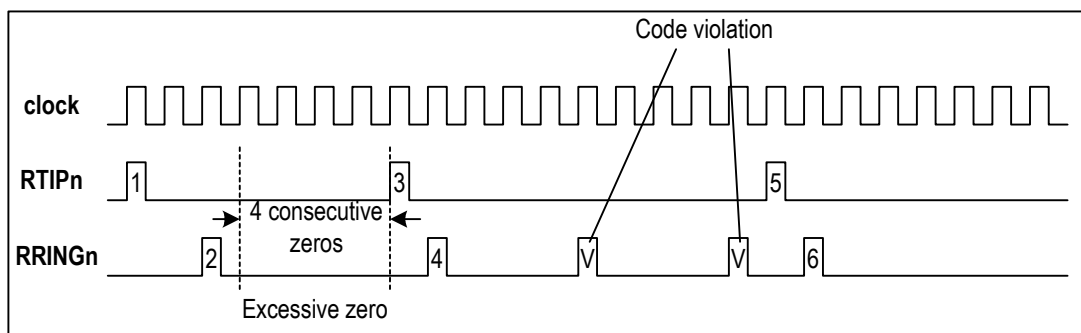

Figure 8. HDB3 Code Violation & Excessive Zero Error
2. HDB3 Code Violation (CV) Error: When HDB3 line code rule is used, a CV error is detected if two consecutive BPV errors are detected, and the pulses that have the same polarity as the previous pulse are not the HDB3 zero substitution pulsed (refer to Figure 8).